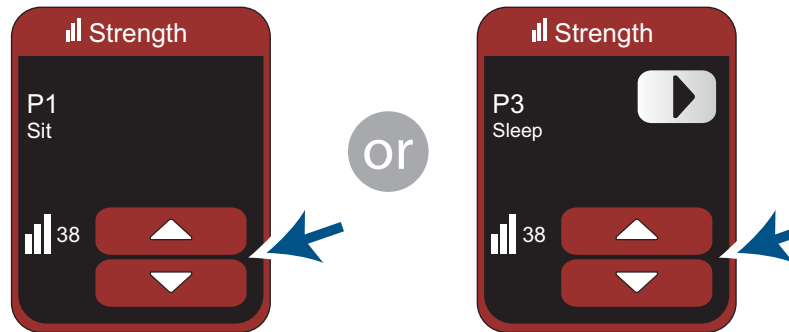

Figure 19. Increasing or decreasing the stimulation strength
3. Tap  or  to increase or decrease the strength of your stimulation (Figure 19).